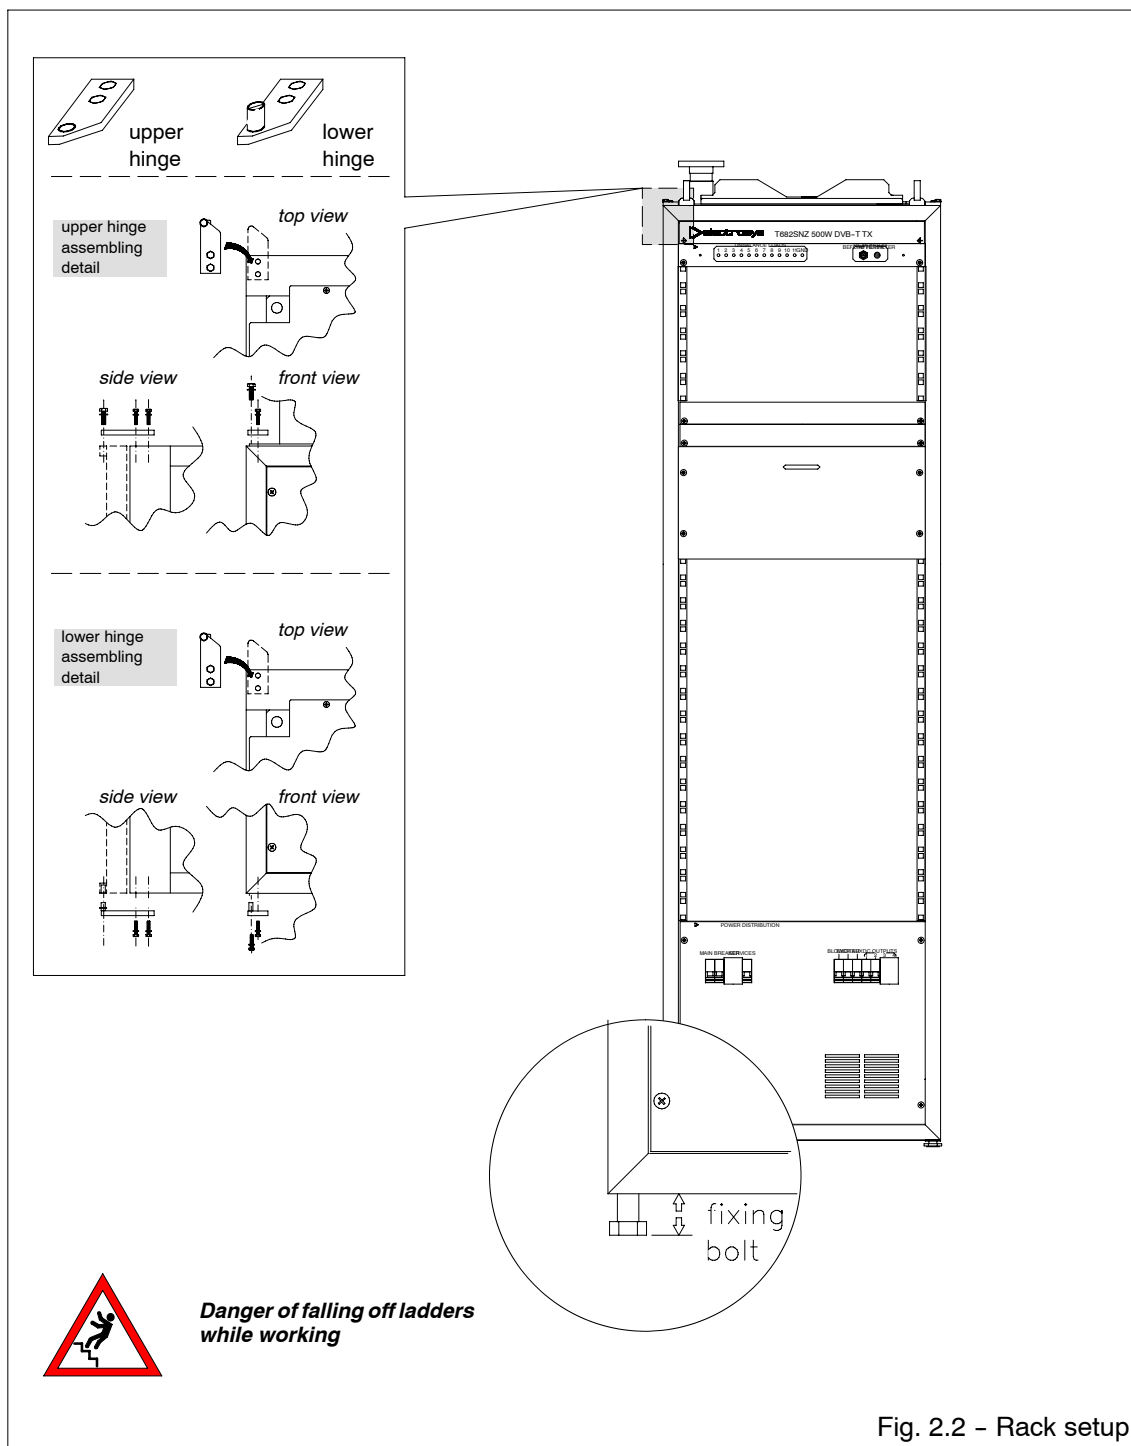

Fig. 2.2 – Rack setup
2.2.1 Rack set-up (refer to Fig. 2.2)